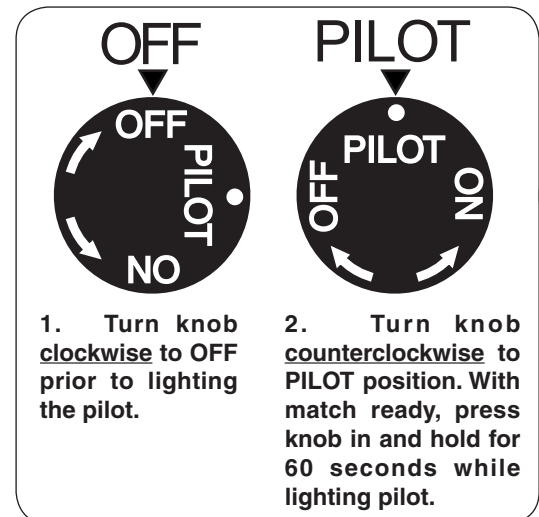

Fig. 17-1 Control knob detail (OFF, PILOT)
1. Locate the valve on the side of the unit. Push in the gas control knob slightly and turn clockwise to **OFF** (Fig. 17-1).
2. Turn the control knob counterclockwise to **PILOT** (Fig. 17-1). Push the control knob **firmly and fully** in and hold. Hold a long fireplace match or lighter near the thermocouple to light the pilot. Continue to hold the control knob in for approximately 60 seconds after the pilot is lit, then release the knob. The pilot will remain lit.